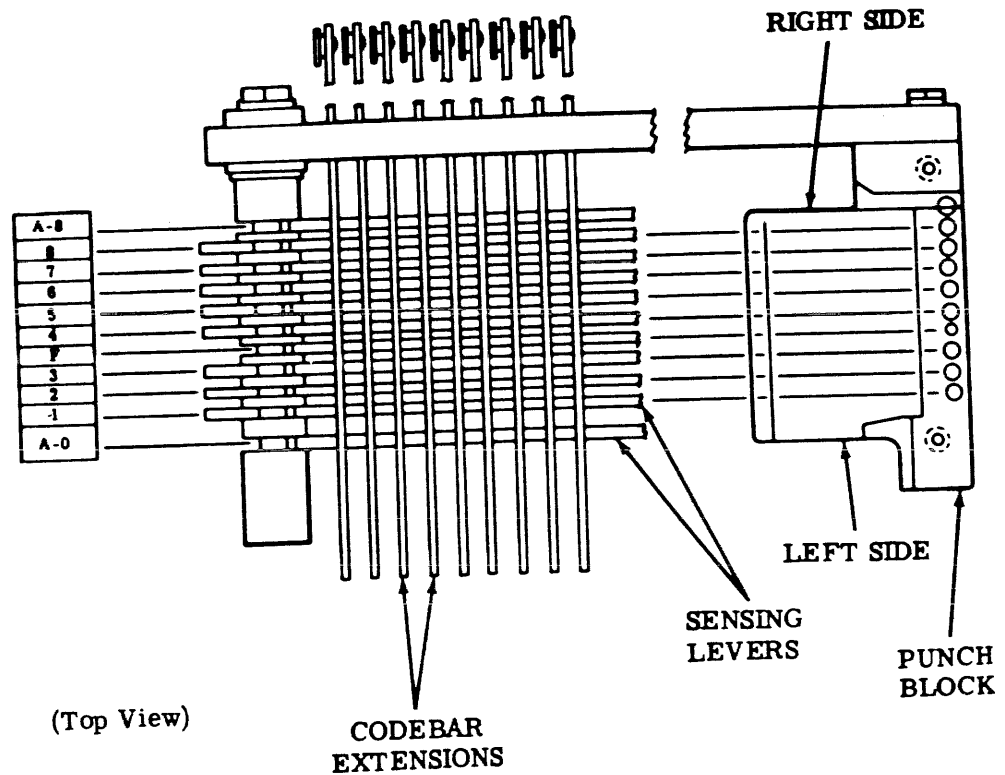

Figure A-3 Sensing Levers Slot Assignment
5. If the Teletype Punch unit is to be used for punching tapes under computer control, it is necessary to remove the clips installed in Slots A-0 and A-8 to enable automatic punch on and off control. Refer to Figure A-3 and Section 574-125-100TC of the teletype manual for location of clips A-0 and A-8.